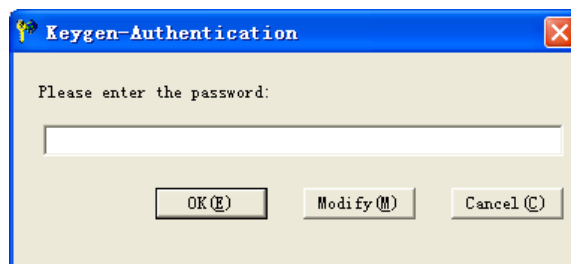
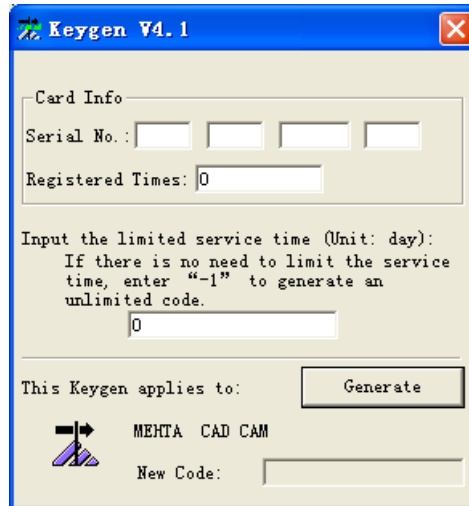

Fig. 3-53 Registration Code Maker-1
Fig. 3-54 Registration Code Maker-2
- 2) Double click the registration code maker “GetRegCode.exe”, and then enter the password “ncstudio” (revisable) in the dialog box as shown in Fig. 3-53. Then press “OK”, input board card no., registered times and limited service time, and then click “Generate” to generate the new code displayed at the lower part, as shown in Fig. 3-54. If service time does not need limiting, input “-1” in the “limited time” bar to generate an unlimited code.